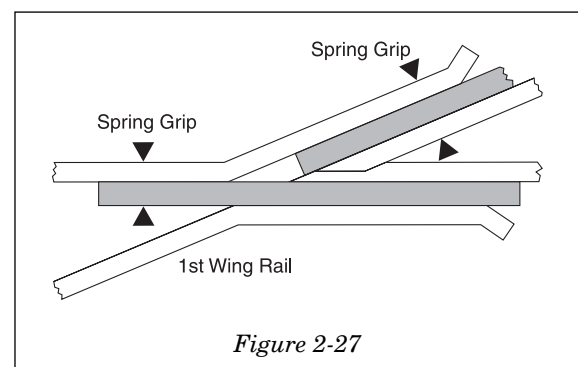

Figure 2-27
6. If the crossing and wing rails were not pre-assembled the straight wing rail can now be added. It can be aligned with the crossing using either the spring clip and a flangeway slip gauge or by using two flangeway gauges. As the slip gauges do not grip the rail, hold the 'loose' wing rail in position with spring hair clips. (Figure 2-27)